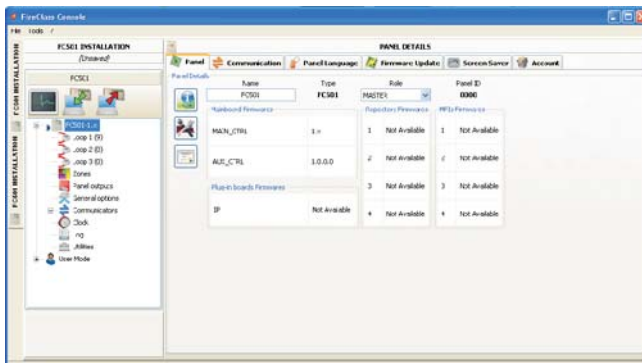

Figure 17 Control Panel Details window.
-  Click on this icon, opens the window in Figure 17 "Panel Details" where you can check/insert various programming.
Click on this icon , the window in figure 17, will be shown, where we have the following menu tabs: